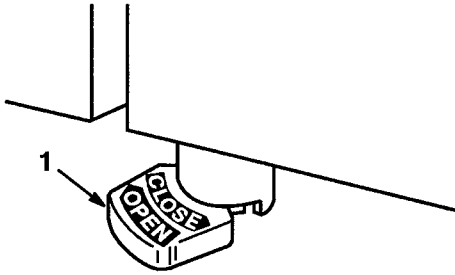

Figure 11
1. Open fuel shut off valve (Fig. 11).